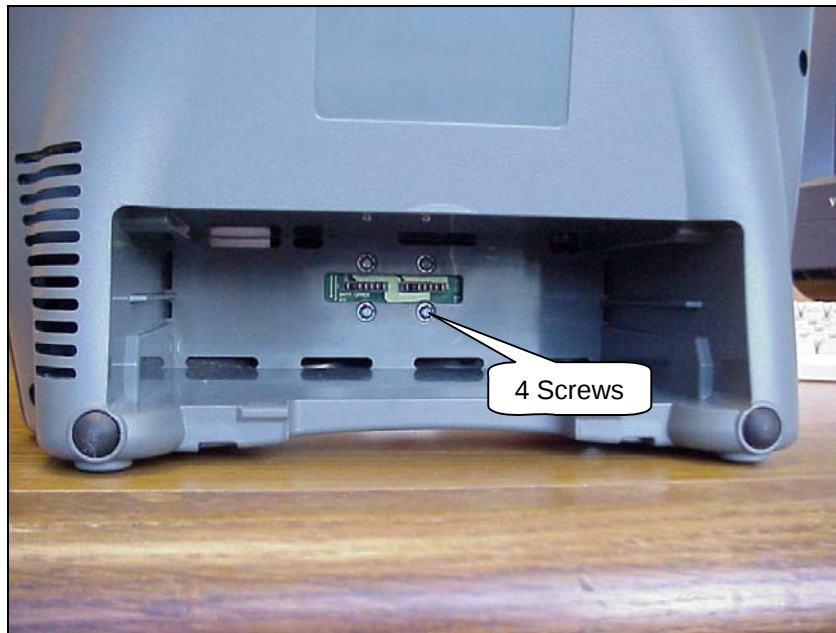

Figure 43: Battery Bridge Board Removal.
1. Remove the Power Cartridge and unscrew the 4 screws (M3x12 Pan Head SEM Screw, P/N 6974-312) shown in Figure 43.
10. Screw in the 4 screws shown in Figure 43.